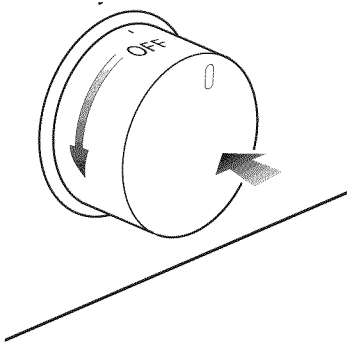

Fig. 2.4
1. Push and turn the dial in an counter-clockwise direction up to the position **HI** (maximum rate of inner + outer crown); push in and hold the dial until the flame has been lit (fig. 2.4).
2. Push and turn the dial in an counter-clockwise direction up to the position **HI** (maximum rate of inner + outer crown); push in and hold the dial until the flame has been lit (fig. 2.4).